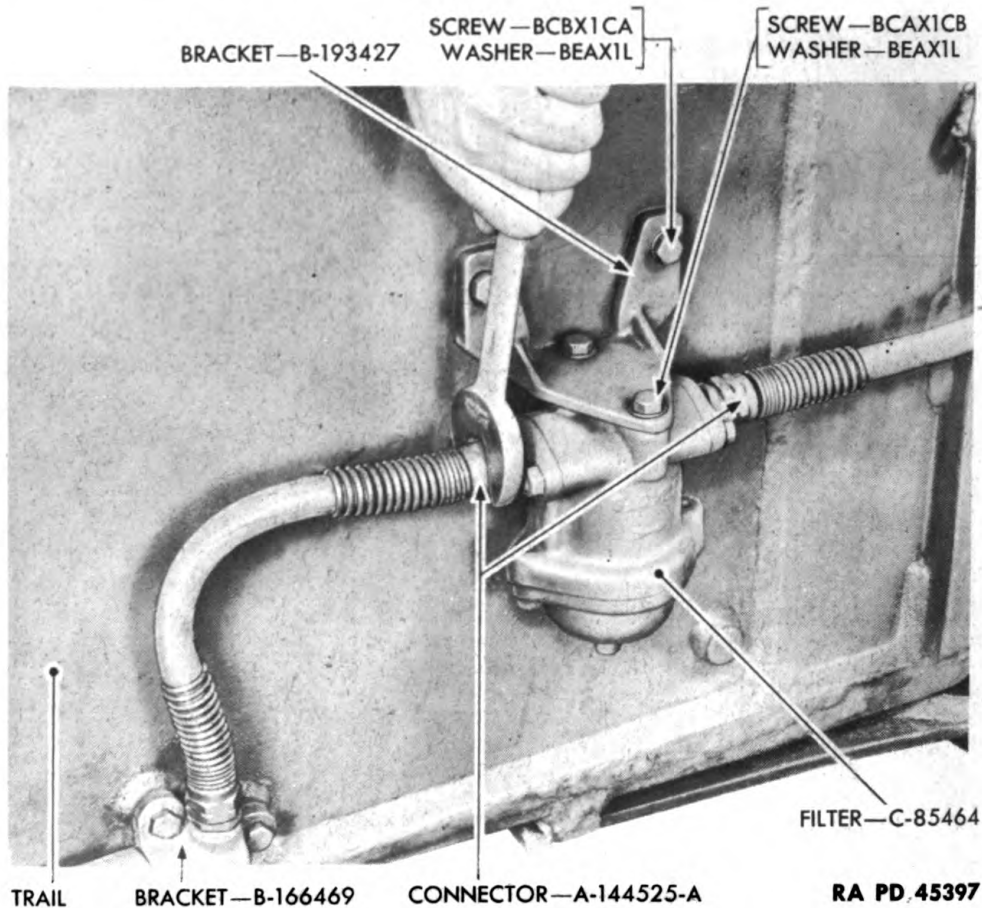

Figure 234—Removing Air Filter
(1) Disconnect hose connectors A144525A, remove two screws BCAX1CB and washers BEAX1L, and lift air filter C85464 away (fig. 234). Then disconnect hose from bracket B166469.
d. Coat threads of two air filter retaining screws with **COMPOUND**, rust-preventive, light. Secure air filter to air filter bracket with two screws and washers (fig. 234). Connect hose to front bracket B166469 and air filter. **NOTE:** The air line hose from filter to bottom carriage is not connected until trail is installed in bottom carriage, paragraph 114.